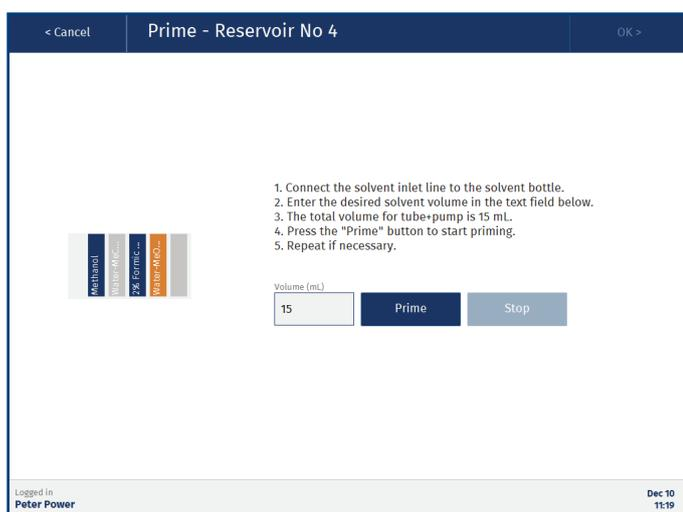

Figure 67. The Prime view for solvent reservoir S4.
- In the **Prime** view (see Figure 67), enter the prime volume and press **Prime**. Approximately 2-3 times 15 mL is required to fill the solvent inlet line and pump with the new solvent.